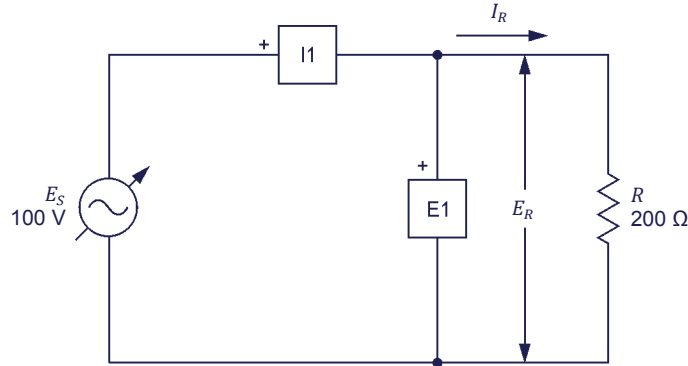

Figure 3-5. AC circuit containing a resistor and set up for power measurements.
6. Set up the circuit shown in Figure 3-5.
- Calculate the active power P dissipated in the resistor of the circuit shown in Figure 3-5.